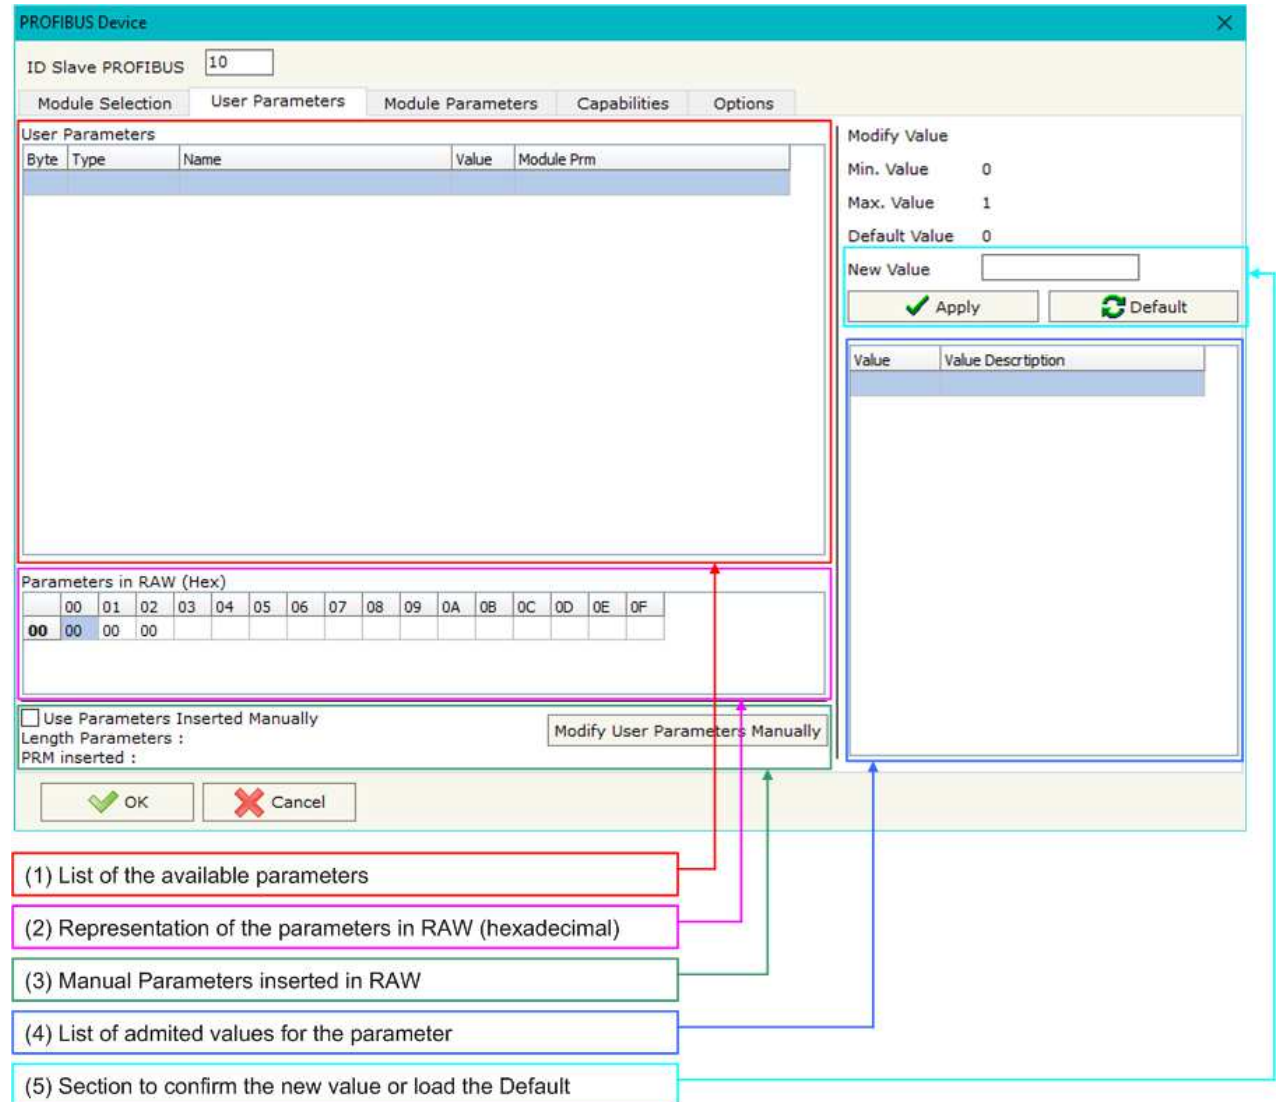

Figure 9: “PROFIBUS Device – User Parameters” window
The section “User Parameters” is used to modify the parameters of the PROFIBUS slave (Fig. 9).
- The List of all Parameters available for the PROFIBUS device (“User Parameters”) (Fig. 9, point (1));
- The Configuration of all parameters in RAW (“Parameters in RAW (Hex)”) (Fig. 9, point(2));
- The “**Use Parameter Inserted Manually**”, enable this option is possible to insert manually the parameters of Device and also of the Modules. Using the “**Modify User Parameters Manually**” button is possible to insert/modify the parametrization of the device (and/or modules). For more info see below. (Fig. 9, point(3));
- The admitted value for the selected parameter. It is possible to select the value desired and confirm it with the “**Apply**” button. If no value appears in this table, the “Min Value” and “Max Value” are the limit of the parameter. (Fig. 9, point(4));
- The “**Apply**” button is used to confirm the new value of the parameter, the “**Default**” button is used to load the factory value for the parameter. In “**New Value**” edit box it is possible to set the new value. (Fig. 9, point(5)).